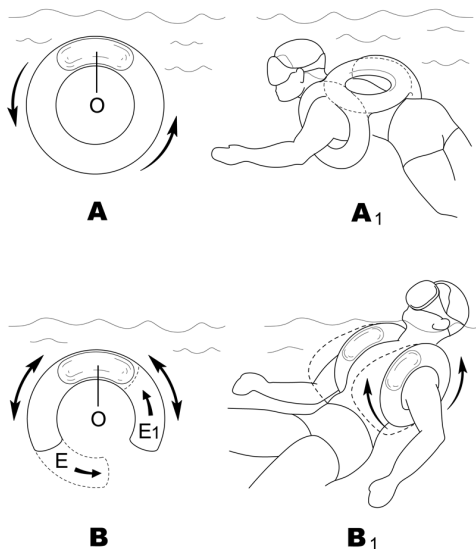

fig. 12
The Master Jacket is quite different from all other models on the market due to its “three dimensional balance” buoyancy control, regardless of the sequence of movements or in what position the movement begins underwater, the internal air bubble cannot cause rotational movements, which would destabilize the diver (fig. 12 - A).
This outcome is owed to the peculiar internal bag design, that uses three interconnecting circles or passageways, permitting the air bubble an unobstructed circulation (fig. 12 -A1). If the ring is interrupted (fig. 12 - B), a rotation of the ring 90 itself, which would bring one of the ends (E or E1) to the highest point (where the bubble (O) resides), would cause the rotation to stop. If the ring is not interrupted, however, the rotation can continue until it reaches the most stable configuration.